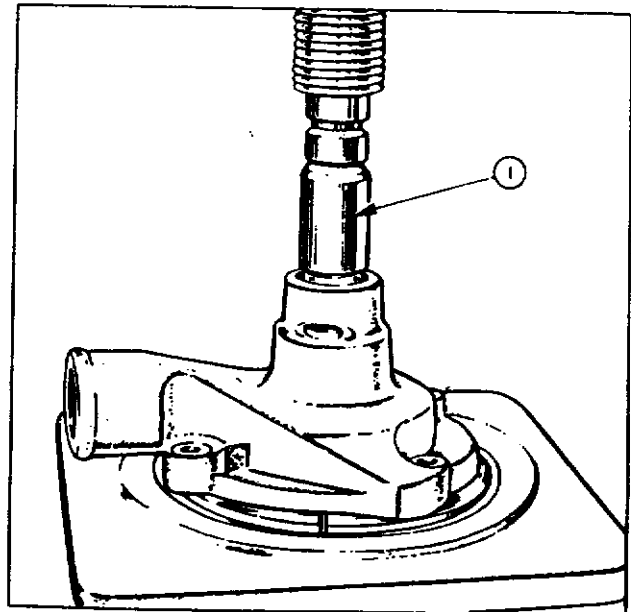

Fig. 9
4. Press the impeller, seal, slinger, shaft and bearing assembly out of the housing, using adaptors CPT.8000-2 detail "d" and CPT.8000-3 detail "b" as shown in Fig. 9. Adaptor detail "b" is hollow, and fits over the shaft and bears against the outer diameter of the bearing.
1. Press the shaft and bearing assembly into the housing (short end of shaft to the front of the housing) until the groove in the shaft is in line with the groove inside the housing, using adaptors CPT.8000-2 detail "d" and CPT.8000-3 detail "b" as shown in Fig. 9.